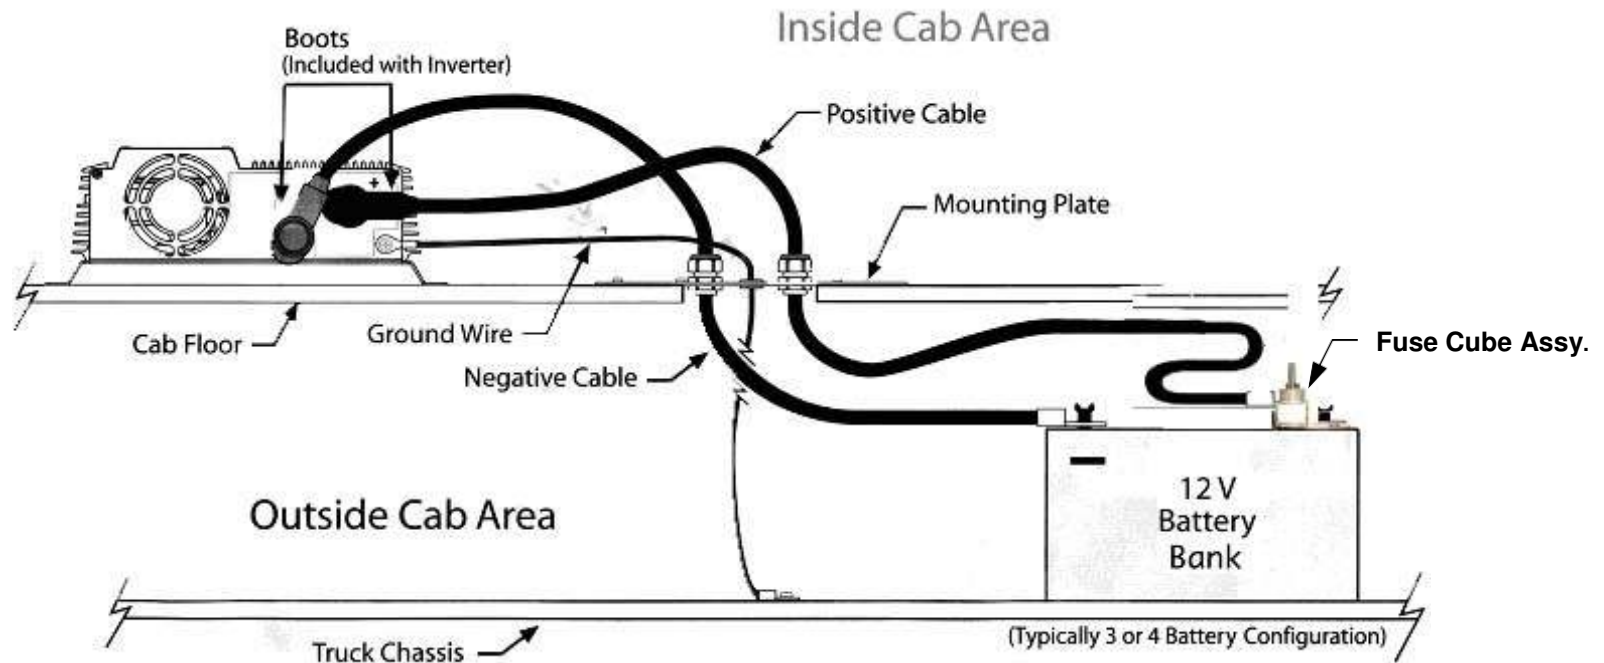

Figure 2 – Cable Layout
1. Find a suitable location for the inverter in the cab (refer to section “Choosing a Location” in the Owner’s Guide.) Be sure the battery cables can reach (max 10 ft.) from the batteries, through the cab floor, to the inverter (Figure 2). Do not mount or install the inverter at this time.
9. Making sure the dome nuts are loose, provide enough battery cable and ground wire to attach their respective terminals to the locations as shown in Figure 2.